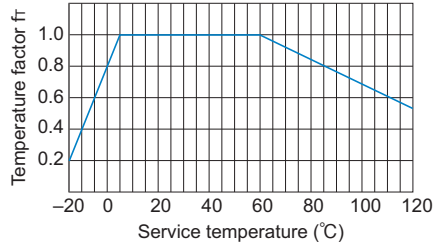

Fig.2 Temperature factor
If the temperature of the spline nut exceeds the normal temperature range, the seizure resistance of the nut and the strength of the material will decrease. Therefore, it is necessary to multiply the dynamic permissible torque (T) by the corresponding temperature factor indicated in Fig.2.
- f_T : Temperature factor (see Fig.2)